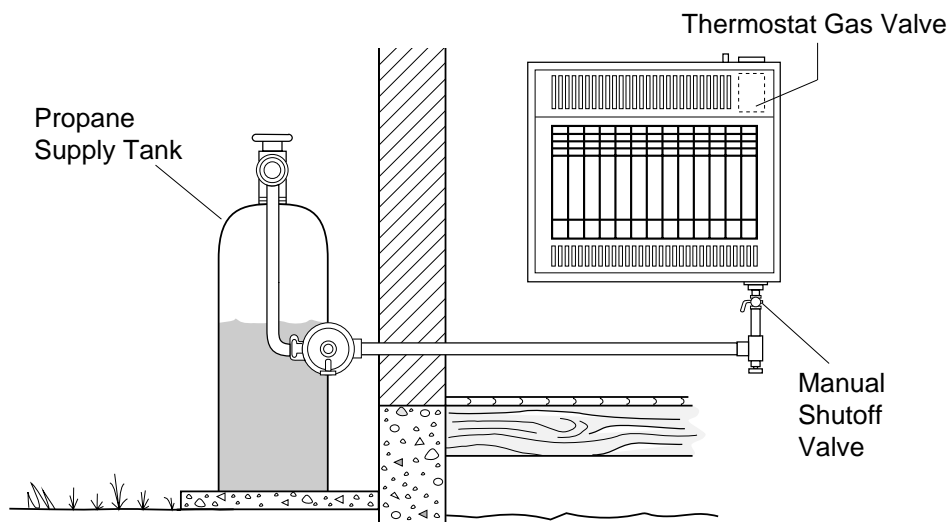

Figure 16 - Checking Gas Joints
3. Check all joints from propane supply tank to manual shutoff valve (see Figure 16). Apply mixture of liquid soap and water to gas joints. Bubbles forming show a leak.
4. Check all joints from manual shutoff valve to thermostat gas valve (see Figure 16). Apply mixture of liquid soap and water to gas joints. Bubbles forming show a leak.